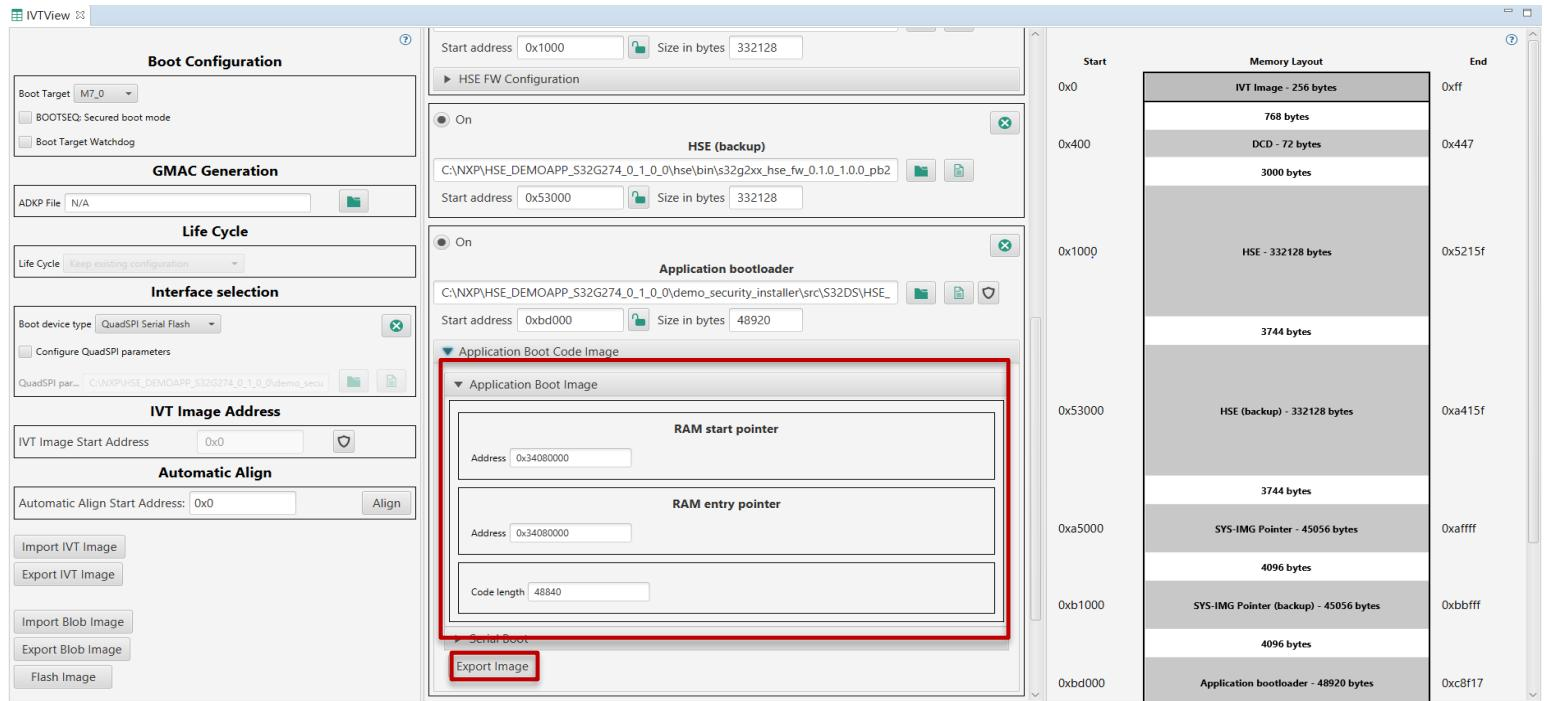

Figure 3 Generate application header (step 4)
- 4) Add header to the application images. After selecting the Application Bootloader binary, three fields will be displayed to be filled in: RAM start pointer, RAM entry pointer, and Code Length. These fields need to be filled in with the addresses the binary was linked to (0x34000000 for SAF85, 0x25000000 for ZE, 0x34080000 for the rest). Also, make sure the Code Length field is aligned to 8 bytes. Export Image -> *app\_with\_header.bin*. Import the new image (with header appended) – **Figure 3**;